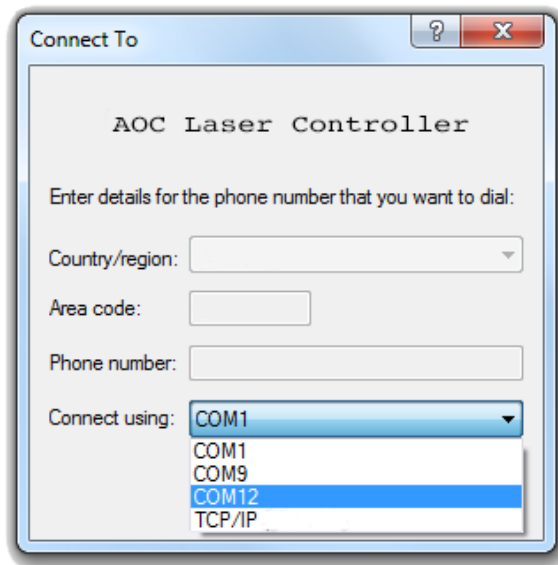

Figure 12: Connect To Dialog Box - Set to "COM1".
4. In the "Connect To" dialog box, choose the COM port being used by your modem (usually COM1 or COM2) from the Connect Using drop-down list and click OK. See Figure 12.